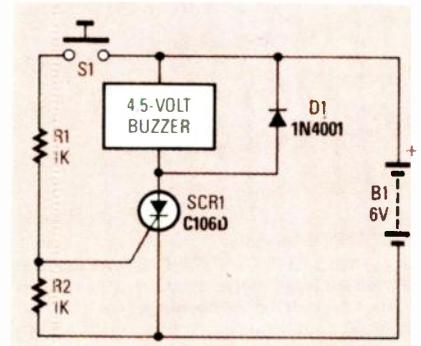

FIG. 6—A BUZZER (or other self-interrupting device) can be used to build an SCR power controller that remains on only so long as S1 is pressed.
**FIG. 6—TO MEASURE CMRR,** use this test setup. With the 1000-Hz source off, adjust R7 for zero volts DC. Next, apply the test signal and measure the output with the oscilloscope. Last, calculate CMRR as discussed in the text.
Although common-mode rejection ratio is a DC quantity, it is more easily measured with an AC source. The circuit shown in Fig. 6 shows one way of determining CMRR.
The DC circuits that we have looked at so far have all used simple resistive loads (lamps), and they have inevitably produced a self-latching action in the SCR's. The circuit shown in Fig. 6, however, shows a simple DC alarm that drives a
The point is that that type of load functions as a switch that repeatedly opens and closes. When a load of that sort is connected to the Fig. 6 circuit, therefore, the circuit does not latch in the normal way, so the alarm operates only as long as S1 is closed. Because of the inductive nature of that type of load, a damping diode (D1) must be wired across it.